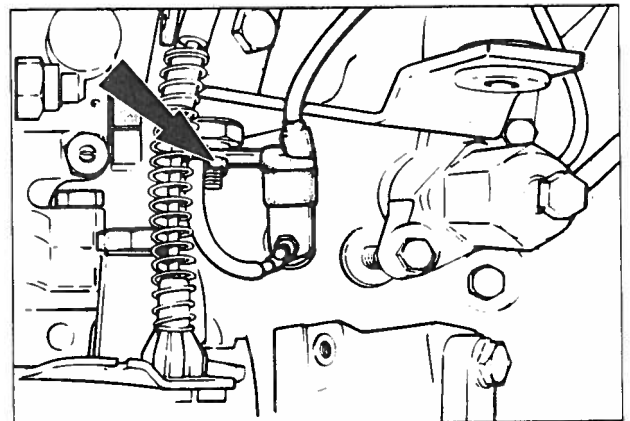

Fig. 50 Glow plug loom connection
43. On 4 cylinder engines fitted with glow plug cylinder heads, connect the glow plug loom at the front of the inlet manifold – see Fig. 50.